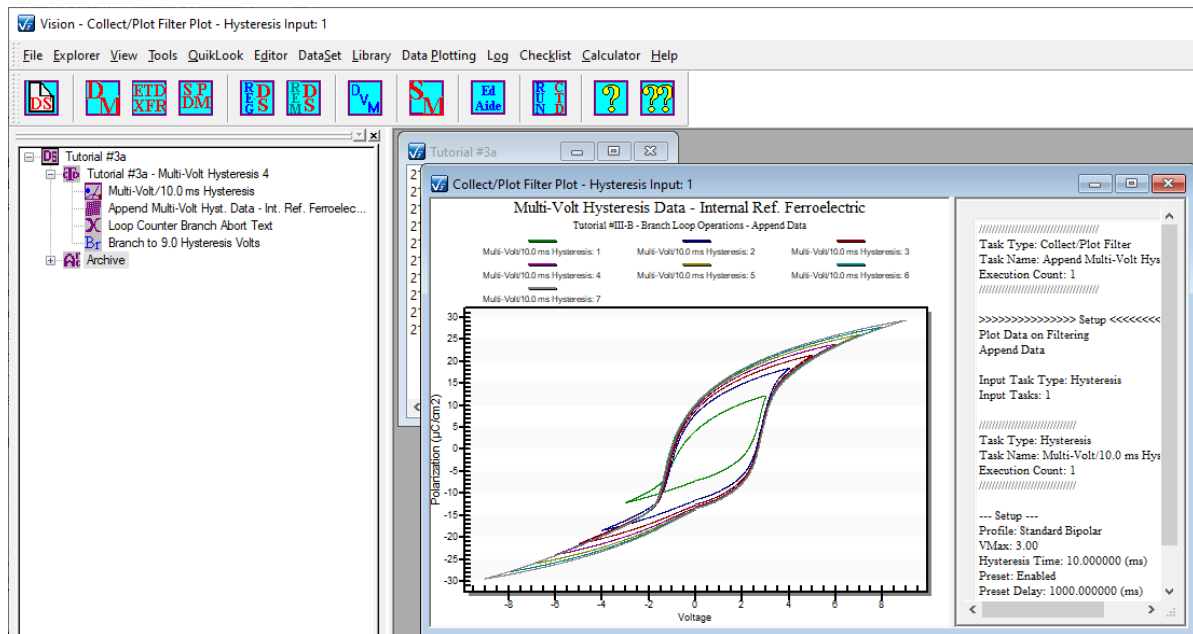

Figure 15 - Plot Window of Filter in Append Mode After Execution. This Single Window Only will Appear.
5. Execute the CTD. When the experiment has finished, the Filter plot window will appear as in **Figure 15**.